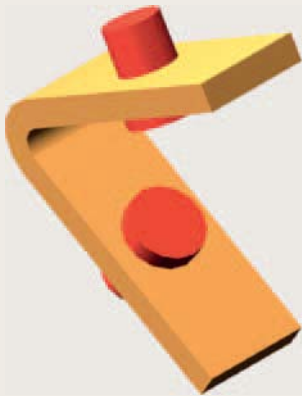
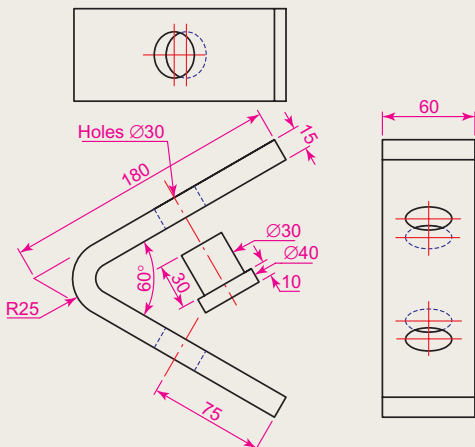

Fig. 17.33 Exercise 1 – a rendering
Fig. 17.34 Exercise 1 – details of shape and sizes
1. Fig. 17.33 is a rendering of a two-view projection of an angle bracket in which two pins are placed in holes in each of the arms of the bracket. Fig. 17.34 is a two-view projection of the bracket. Construct a 3D model of the bracket and its pins. Add lighting to the scene and materials to the parts of the model and render.